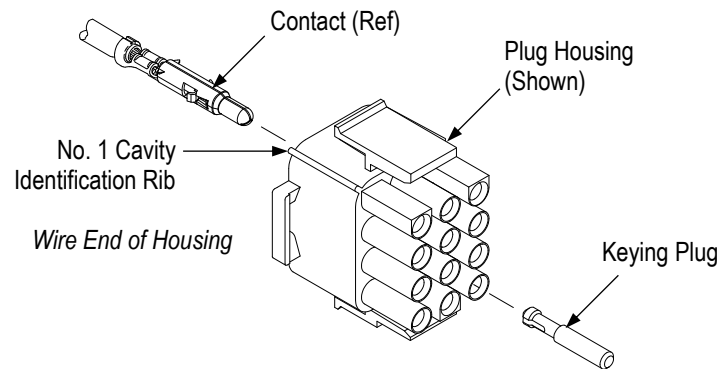

Figure 2
2. Observing the cavity identification numbers on the wire end and the No. 1 cavity identification rib on the side of the housing, manually insert each contact into a circuit cavity of the housing. After inserting the terminal into the back of the housing, pull back lightly on the wire of the contact to make sure that the contact is locked in place. If using keying plugs, leave the circuit cavities to be keyed empty. Refer to Figure 2.
3. If applicable, insert keying plug(s) according to instruction sheet 408-3320. Refer to Figure 2.